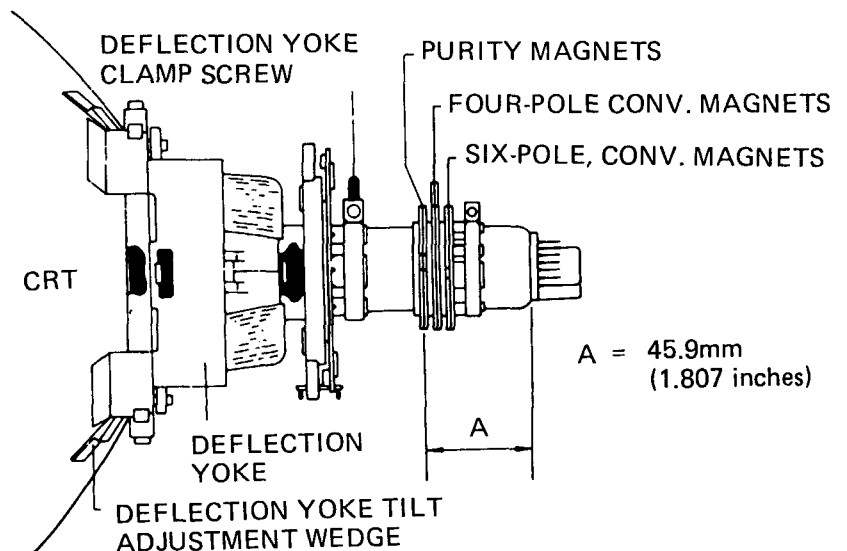

Figure 13. Picture Tube Neck Components Location
1. Check for the correct location of all neck components. Refer to Figure 13.
10. Static (Center) Convergence (Figs. 13–16)